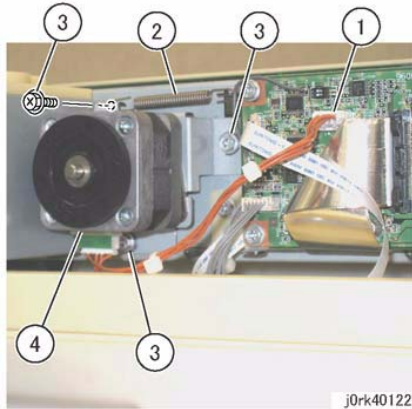

Figure 1 Carriage Motor Removal
3. Remove the Carriage Motor. (Figure 1)